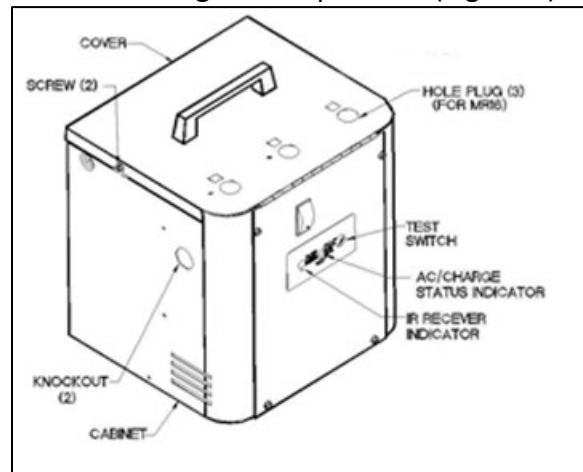

Figure 1
1. Prior to mounting cabinet to wall, back out screws (2) on sides of cabinet enough to swing open cover.
2. Remove hole plugs as needed for installing the lamp heads. (Figure 1)